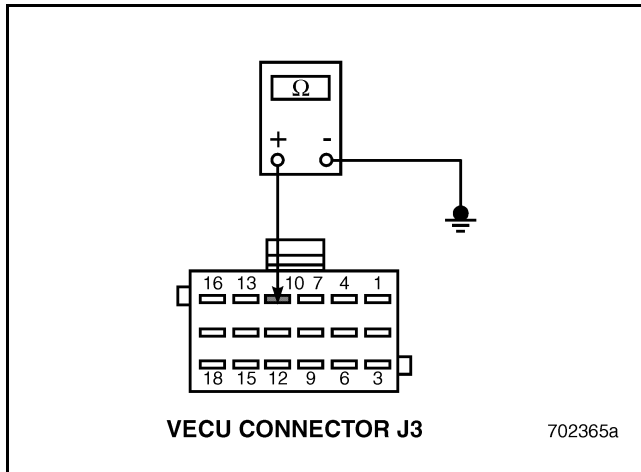

Figure 487
2. Check for continuity between VECU connector J3, pin 10 and a good ground (see Figure 487).